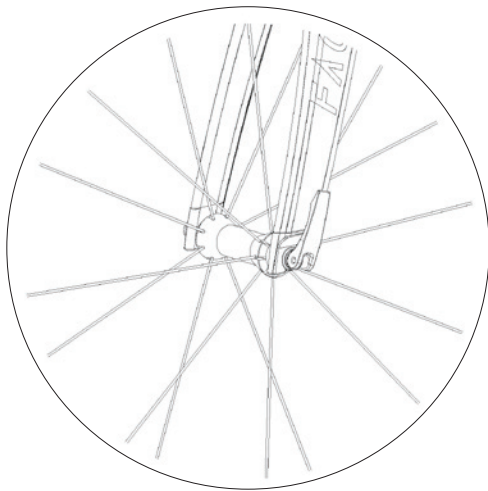

Figure 7: Wheel quick-release: 'CLOSED' position
- Keeping the wheel centred, push the wheel firmly up and into the fork dropouts and move the quick-release lever to the 'CLOSED' position (Fig. 7). Ensure that the quick-release lever is parallel to the fork blade. If this proves difficult, return the lever to the 'OPEN' position and re-adjust the tension adjusting nut by half a turn (clockwise) before trying again.
- Keeping the wheel centred, push the wheel firmly into the fork dropouts and move the quick-release lever to the 'CLOSED' position (Fig. 7). Ensure that the quick-release lever is parallel to the fork blade. If this proves difficult, return the lever to the 'OPEN' position and re-adjust the tension adjusting nut by half a turn (clockwise) before trying again.